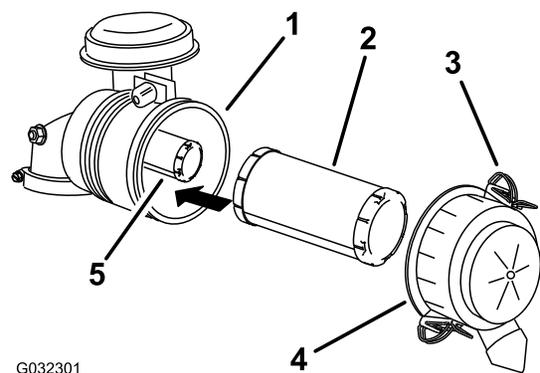

Figure 50
3. Release the latches on the air cleaner and pull the air-cleaner cover off the air-cleaner body (Figure 50).
5. Gently slide the primary filter out of the air-cleaner body (Figure 50).
- If you are replacing the safety filter, carefully slide it into the filter body (Figure 50).
- Carefully slide the primary filter over the safety filter (Figure 50).
- Install the air-cleaner cover with the side indicated as **up** facing upward and secure the latches (Figure 50).